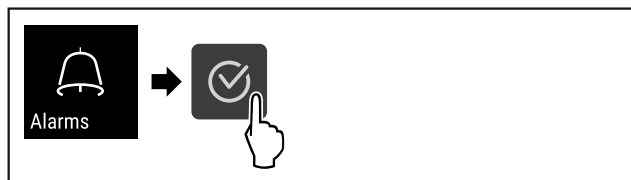

Fig. 96
- Complete steps (see Fig. 96).